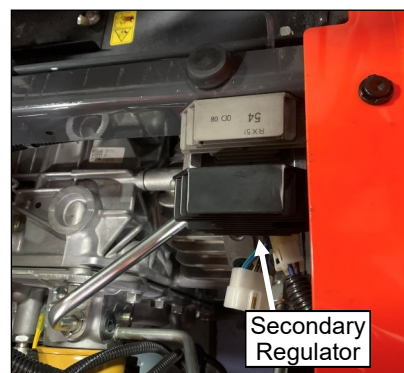

Fig. 4.9 (Install Secondary Regulator)
- 4.9 See fig. 4.9. Install the supplied secondary voltage regulator in front of the OEM regulator with the following hardware.